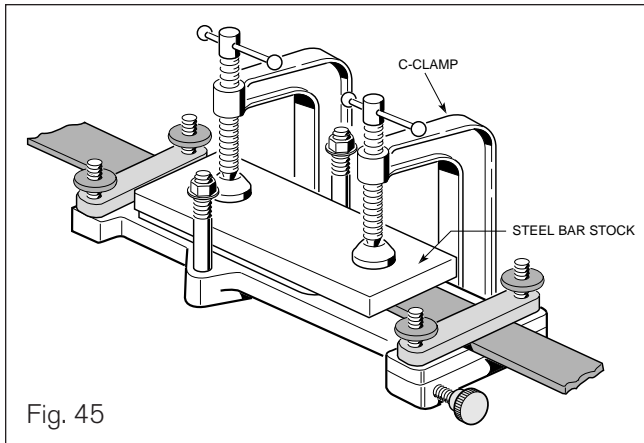

Fig. 45
Curing the belt weld (Fig. 45)
- 2 Procedure 2: After 25-30 minutes, switch off the unit (unplug it) and immediately remove the heating element and clamp a piece of steel bar stock in its place for 30 minutes (Fig. 45). After 30 minutes remove the clamps and sand the edges lightly if necessary to remove glue residue.